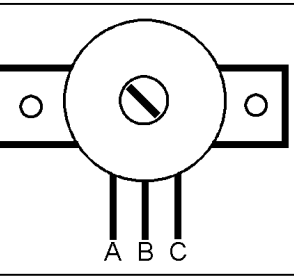

Fig. G.2 1: Sample TPS
1. With the TPS in the **closed throttle** position, measure the resistance of the following three positions referenced to **Figure G.2 1**: A-B, A-C, and B-C.